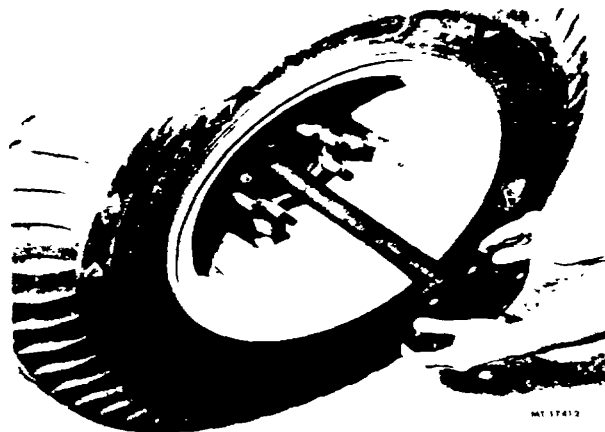

Fig. 7
3. Remove outer bearing grease cap and gasket on front axles. Remove axle shaft from rear axles (Fig. 7).